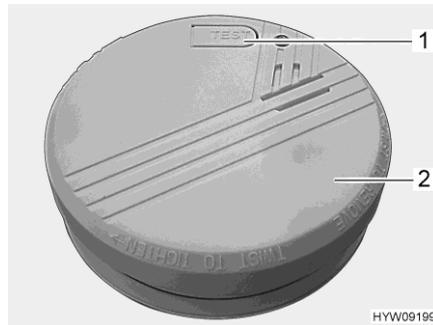

Fig. 156 Smoke alarm
- Turn the smoke alarm (Fig. 156,2) anticlockwise until it can be released from the holder.
- Test the smoke alarm. To do this, press the test button (Fig. 156,1). The alarm must sound.